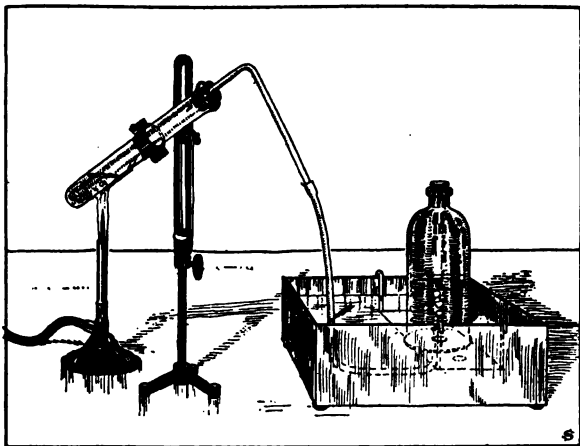
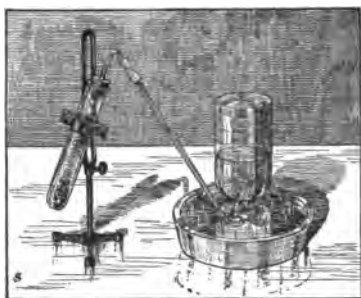

FIG. 30. Preparing oxygen from one of its compounds.
FIG. 38. Collecting hydrogen.
**Exercise 1.** Powder a small quantity of pure potassium chlorate and mix it with one fourth as much manganese dioxid (black oxid of manganese). Keep the mixture perfectly dry and free from dust or other foreign matter. Fill an ignition tube about one third full of the mixture.1 Close the tube with a cork through which passes a small delivery tube (Fig. 30). Support the tube in a slanting position and apply heat. Heat the upper part of the mixture first and regulate the heat so that the gas will be given off at a uniform\* rate. The gas can be collected in bottles filled with water and inverted in a vessel of water (Fig. 38). Fill several bottles with the gas. Close the bottles with a glass plate or cork and stand them upright. Keep them stoppered or covered. Why? Remove the delivery tube from the water before the lamp is taken away from under the test tube.